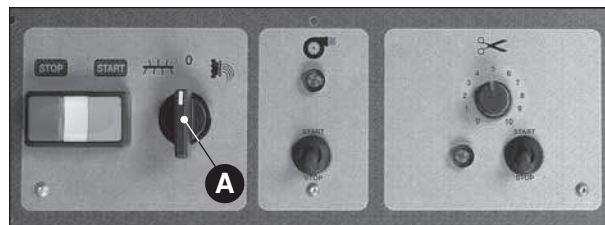

Fig. 2
- switch the selector to the “0” position (**Fig. 2 A**) and check the correct set-up of the Archimedean screw, making sure that the cylinder part is sustained by the dragging shaft;
**In this case**, before turning the switch (**Fig. 2 A**) **FROM KNEAD TO DRAWPLATE** you will have to add some more flour and knead a little longer. If the flour does not form a ball and is too floury, add some more water.